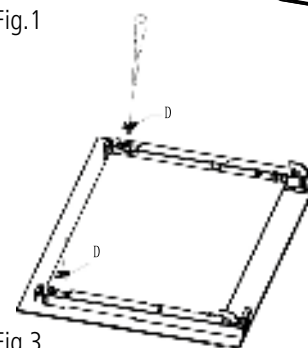

Fig.3
3. Loose clips [D] by unscrewing. [Fig.3]